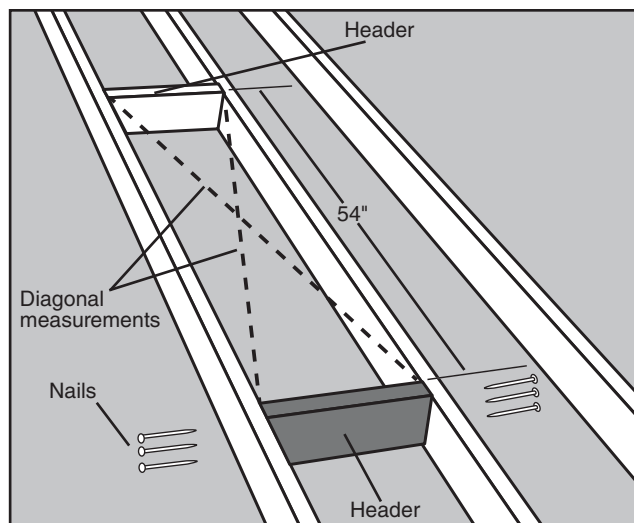

FIGURE 13 How to check for square
**STEP 5.** Position the second header 54" from the first one and repeat Step 4 (See Figure 13).
**STEP 6.** The frame for the rough opening requires four sides. The headers make up two of those sides. If your ceiling joists are spaced so that they make up the other two sides of the rough opening, check the opening for squareness by measuring across the diagonals. The measurements should be within 1/8" to be considered square (See Figure 13). If your ceiling joists do not make up the other two sides of the rough opening, you need to install one or two additional pieces of lumber to frame the other side(s) of the rough opening, go to "Installing Stringers" on page 16.